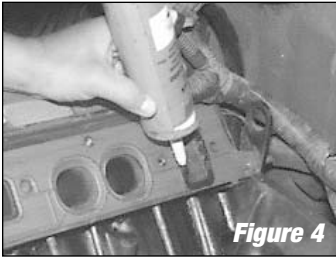

Figure 4
1. With the intake gaskets in place, apply a small amount of RTV High Temp silicone sealer around the water passages on the intake manifold side **(See Figure 4)**.